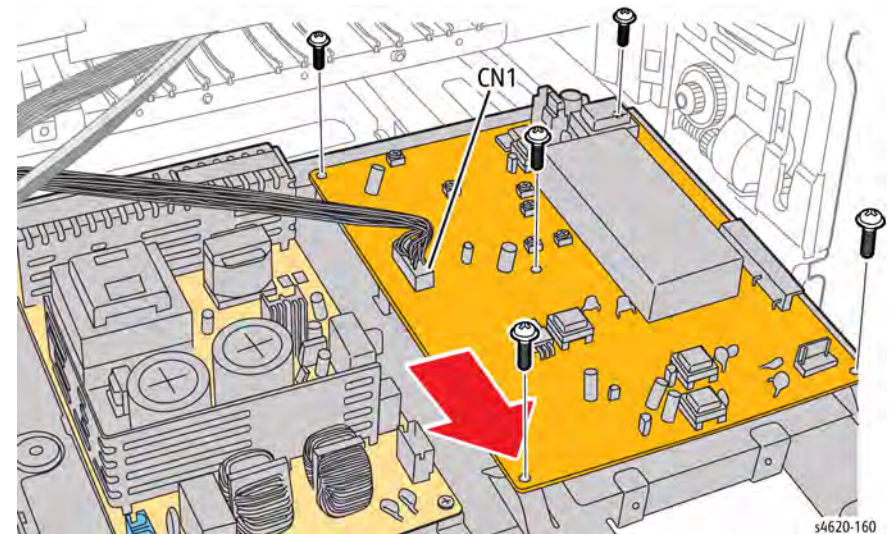

Figure 8 Remove the HVPS
19. Disconnect CN1 and remove 5 screws (metal) that secure the HVPS to the power supply tray, Figure 8.